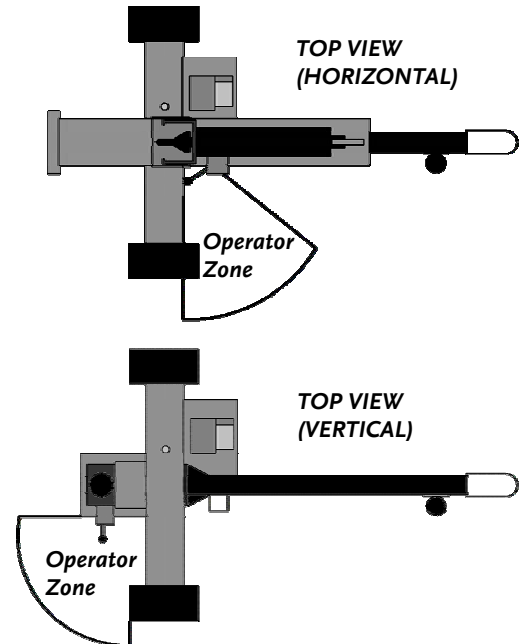

Figure 29
WHEN OPERATING THE WOOD SPLITTER, MAKE SURE YOU ARE STANDING IN THE SAFE OPERATING AREA (OPERATOR ZONE) AS SHOWN IN FIGURE 29. YOU MUST STAY IN THE SAFE OPERATING AREA AT ALL TIMES WHEN THE SPLITTING WEDGE IS IN MOTION (WHETHER EXTENDING OR RETRACTING). NEVER PLACE ANY PART OF YOUR BODY INTO A POSITION THAT CAUSES AN UNSAFE OPERATING CONDITION.
10. Only using your hand, pull the control valve handle forward (towards the log) (**Figure 35**). If the log moves before it is contacted by the splitting wedge, release the control lever and then reposition the log. Operate the WOOD SPLITTER only when standing in the **safe operating area**, shown in Figure 29.
6. Only using your hand, pull the control valve handle down (towards the log) (**Figure 44**). If the log moves, before it is contacted by the splitting wedge, release the control valve handle and then reposition the log. Operate the WOOD SPLITTER only when in the safe operating area, as shown in Figure 29.